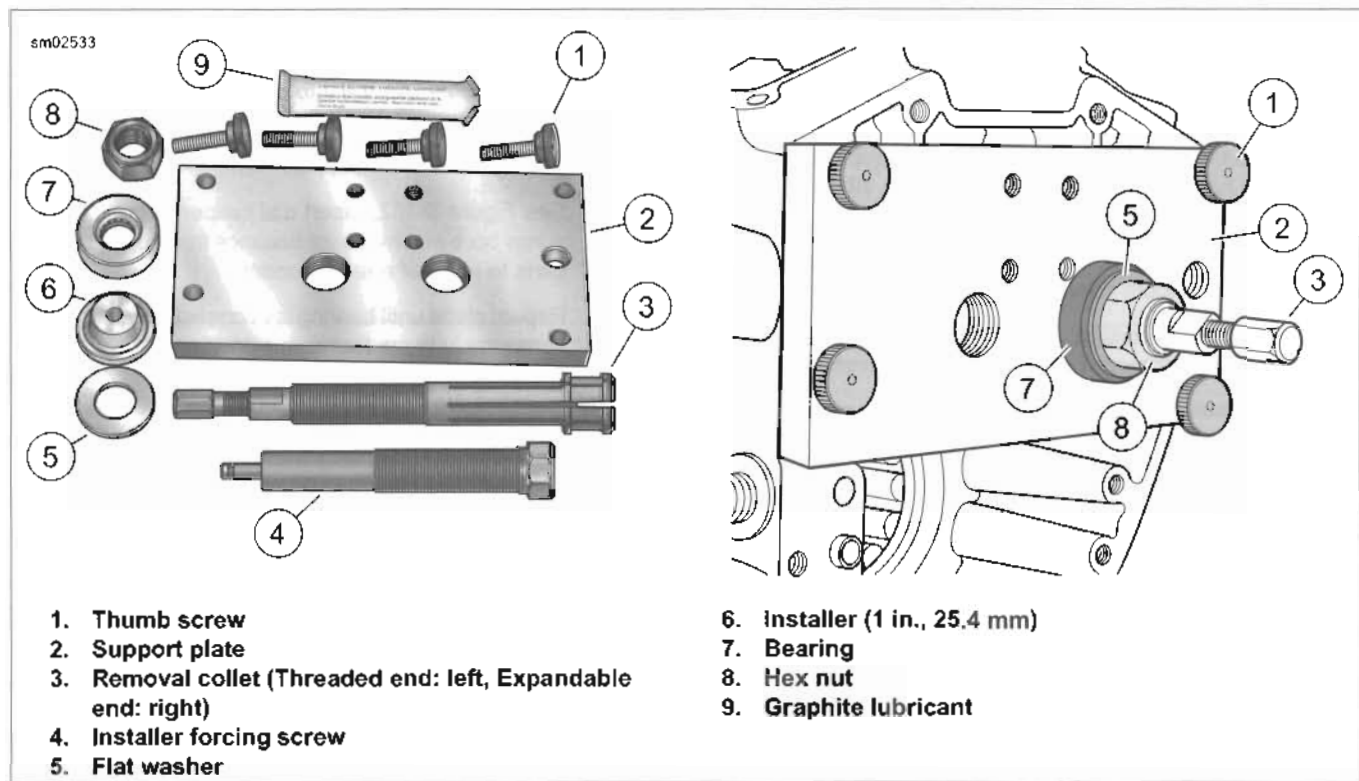
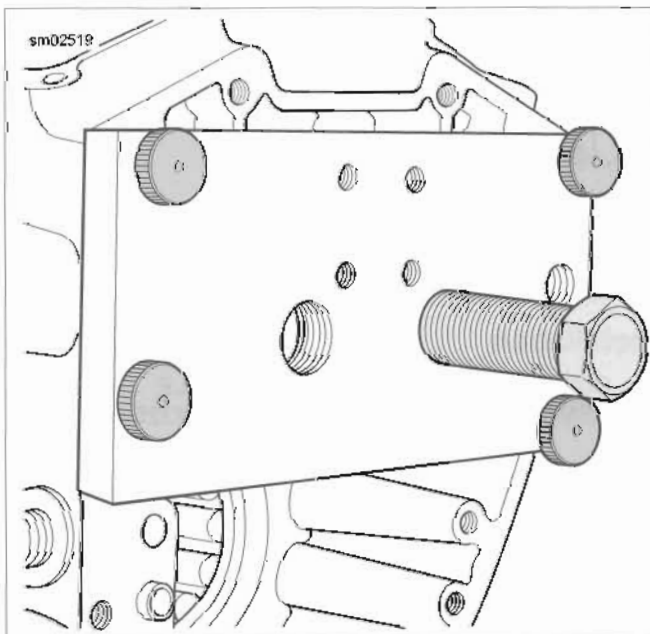

Figure 3-102. Camshaft Needle Bearing Remover/Installer
Figure 3-105. Installer Forcing Screw Installation
2. See Figure 3-102. Remove four thumb screws (1) from threaded holes in support plate (2), if installed.
3. Sparingly apply clean engine oil (9) to threads of collet (3) to prolong service life and verify smooth operation.
7. Center expandable end of collet in bearing bore and slide bearing (7) and flat washer (5) on threaded end. Start hex nut (8) on threaded end.
4. See Figure 3-102. Sparingly apply clean engine oil to threads of installer forcing screw (4) to prolong service life and verify smooth operation.
5. Thread installer forcing screw into stamped side of support plate (2) until threads begin to emerge from opposite side.
6. Place installer (6) at end of installer forcing screw.
8. See Figure 3-105. Aligning two large holes in support plate with needle bearing bores, hang right side of plate on ring dowel in crankcase flange.